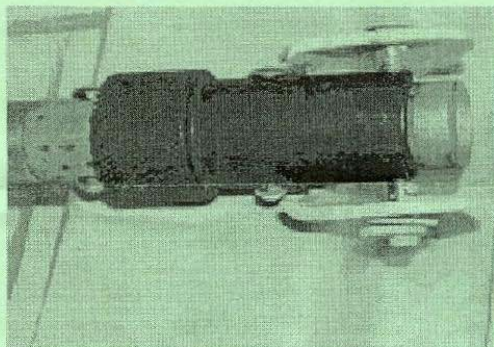

Figure 3. Primary Lock Correctly Engaged
1. The primary lock has properly engaged its clip pin on the core cowl door as seen in figure 3;